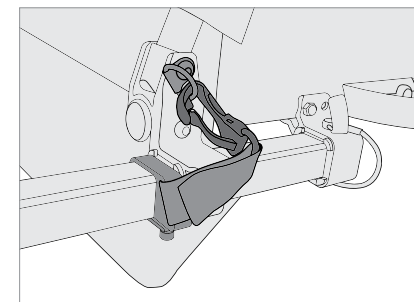

Figure 11
4. Clip the safety strap to the D-ring on the trailer frame (Figure 11).